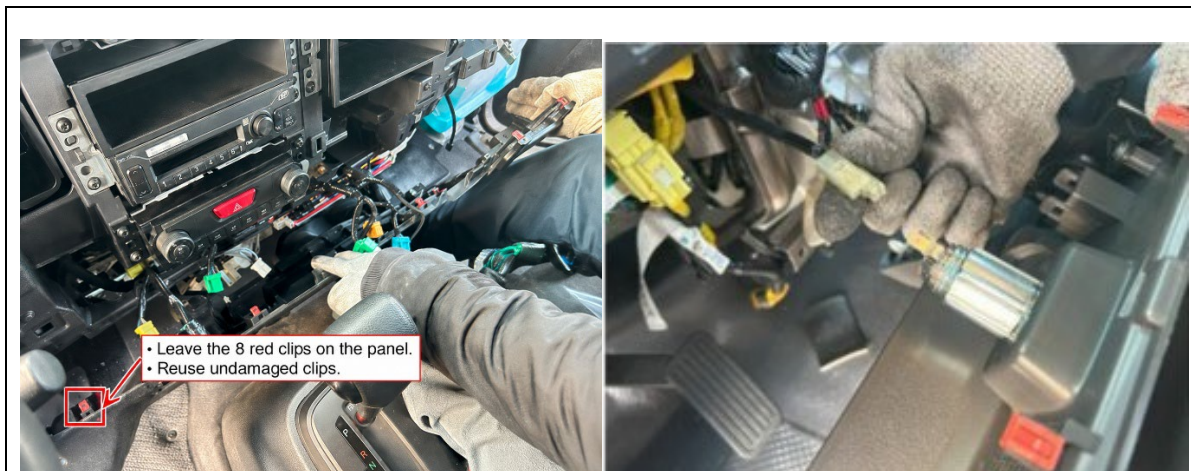

Figure 21
22. Pull the lower instrument panel under cover out to disengage the clips, disconnect the 12V accessory port and the HVAC temperature sensor housing and remove the lower instrument panel under cover. (See Figure 21.)